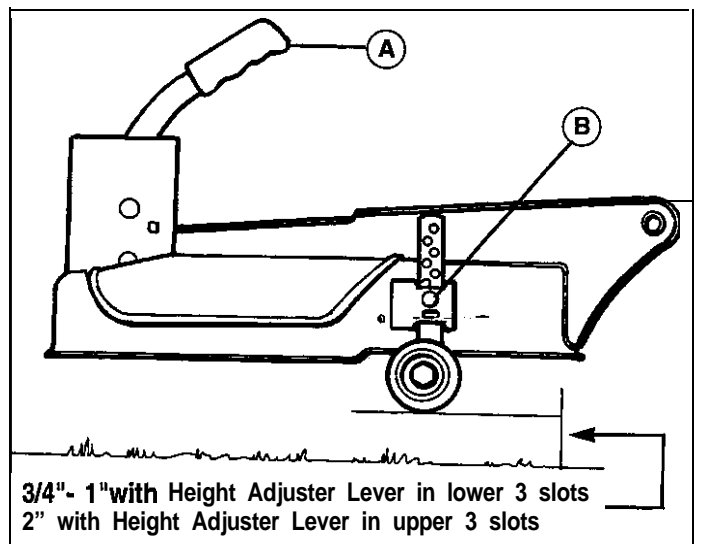

Figure 7. Adjusting Mower Deck Gauge Wheels
2. Remove the pin & clip (B, figures 7) from each mower deck front gauge wheel.
3. Adjust the gauge wheels to achieve the appropriate mower deck-to-ground clearance, as shown in figure 7. Reinstall pin & clip to each wheel.